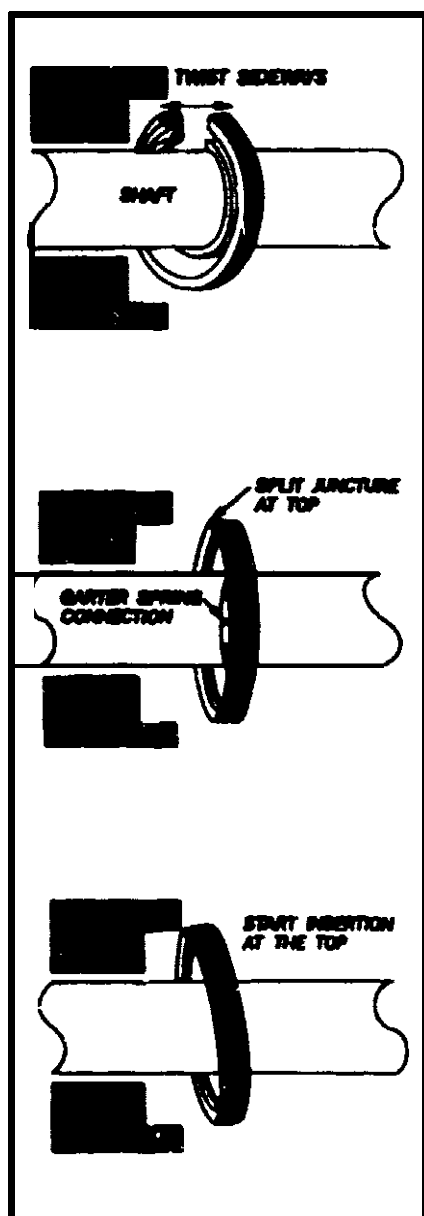

Figure 5.9-3
3. Separate the cut ends of the new seal sideways so the seal forms a helix, as shown in Figure 5.9-3. *Do not try to form the seal into a "U" shape.* Separate the ends far enough that the seal can slip over the shaft. Make sure the seal lip void faces the bore cavity.
4. Insert the garter spring into the lip carrier groove. The hook-and-loop connection must be at least 45° from the split juncture. See Figure 5.9-3. Then push the seal toward the bore cavity until it touches. Make sure the split ends are well aligned.